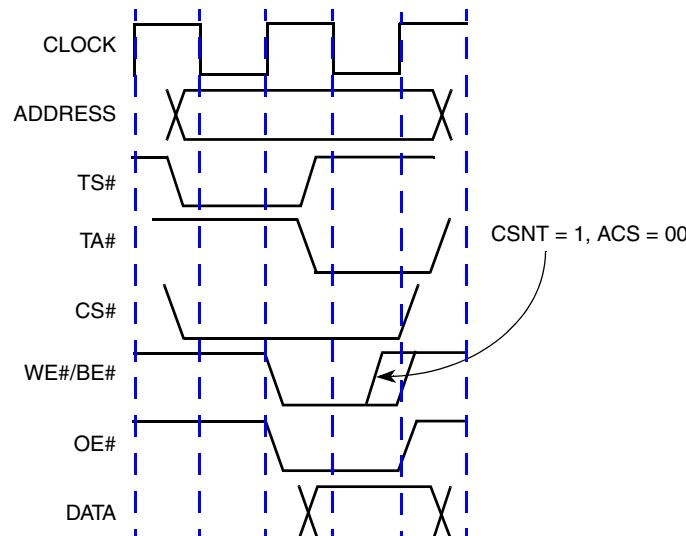

Figure 5. MPC5xx Memory Devices Interface Basic Timing (ACS = 11, TRLX = 0)
With the default settings in the option register (OR) (ACS = 11, TRLX = 0), Figure 5 shows that WE# and CS# negate at the same time. However, the MFR4200 AMI timing shows that WE# must negate a minimum of 30 ns (t_{CEWE}) before CS#.